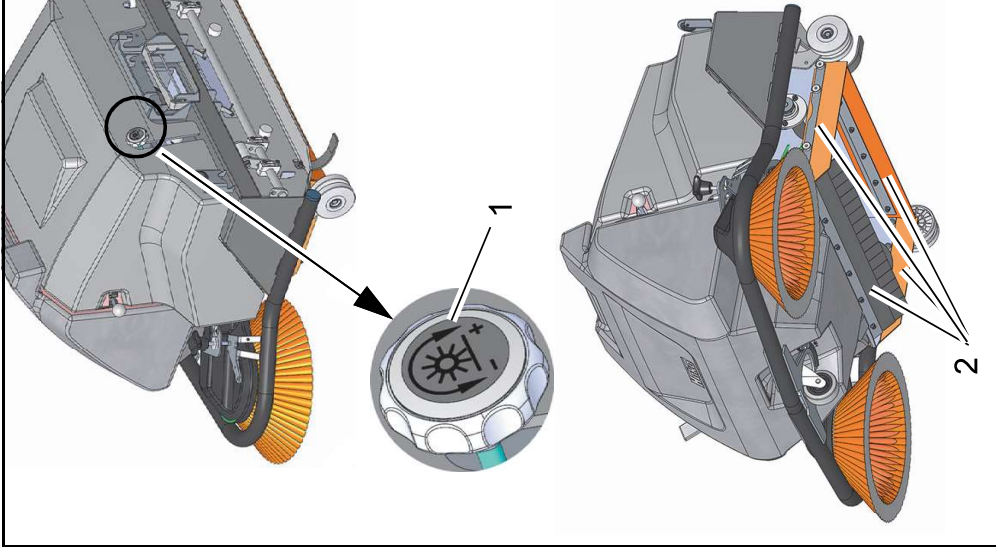

Fig. 9
2. Rotate the adjustment dial (Fig. 9/1) until the cylindrical brush is touching the floor.
Inspect the sealing strip of the cylindrical brush compartment (Fig. 9/2) for wear and check for damage at regular intervals.